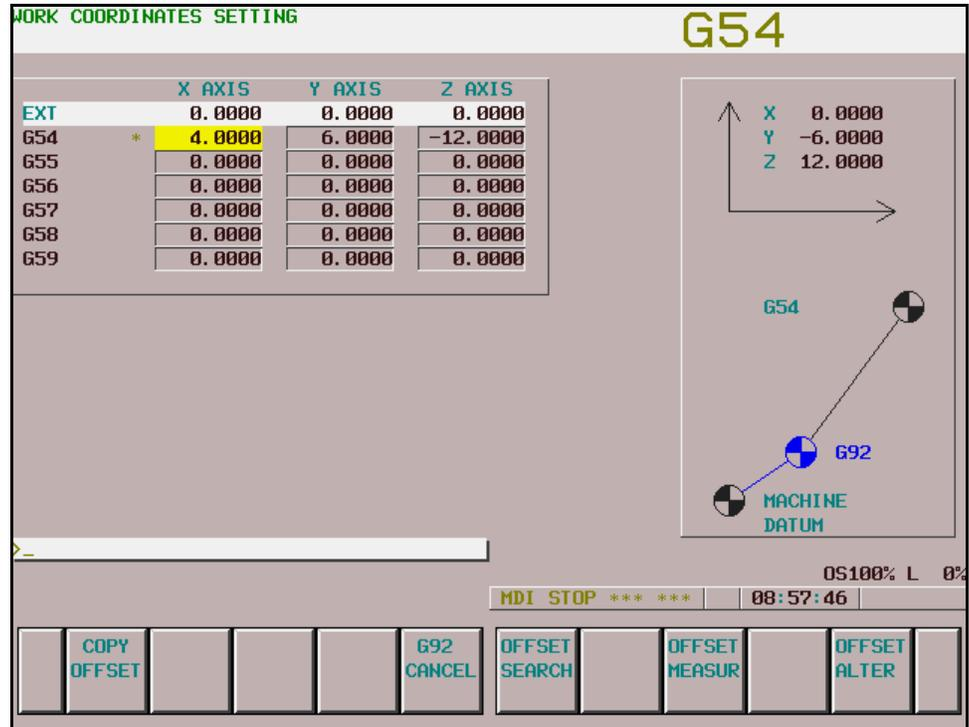

Figure 6-11:
1. Press the DATUM SET pushbutton - the following screen is displayed (Figure 6-11):